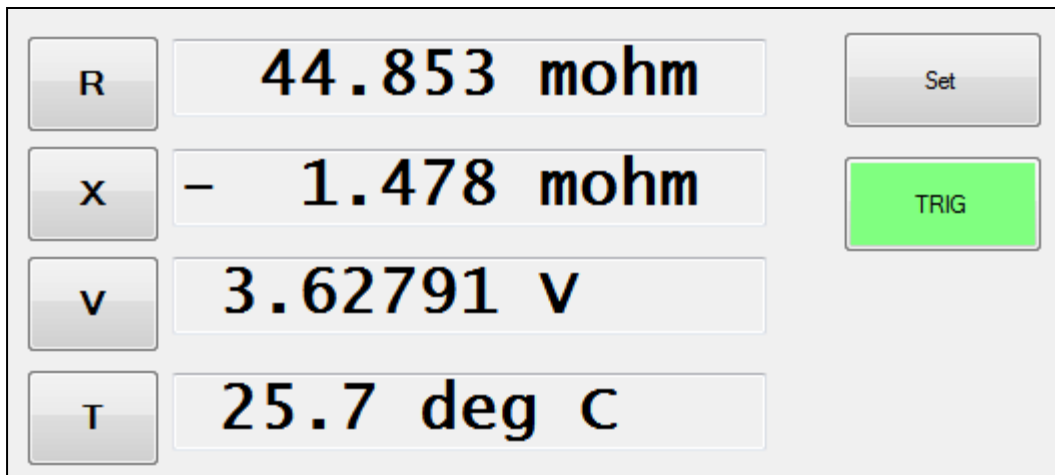

Fig 3-12. Display measurement values
- (1) Click [TRIG].
- (2) The measurement will be performed under the current measurement condition, then the result will be displayed. (Fig 3-12)